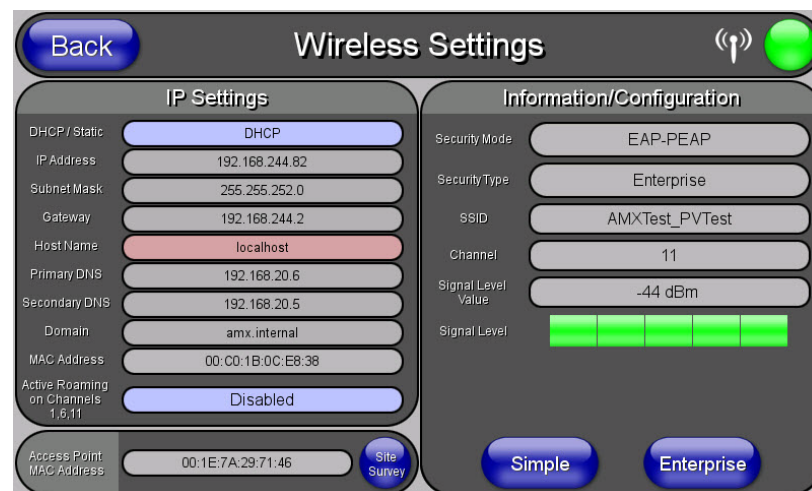

FIG. 16 Wireless Settings page (showing a sample unsecured configuration)
1. Press the **Wireless Settings** button (located on the lower-left) to open the *Wireless Settings* page (FIG. 16).